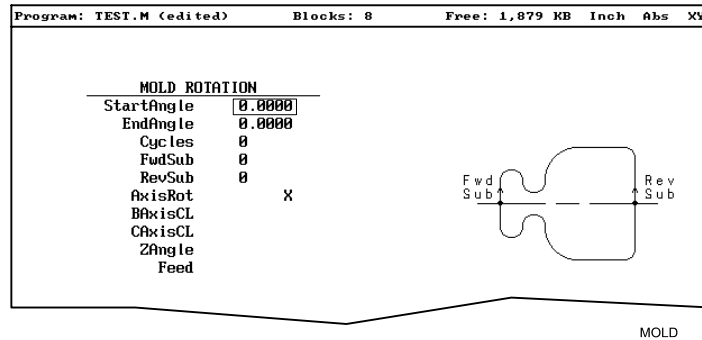

Figure 4-43, MOLD ROTATION Graphic Menu
2. Highlight **Mold Rotation** and press **ENTER** to display the **MOLD ROTATION** Graphic Menu. Refer to **Figure 4-43**.